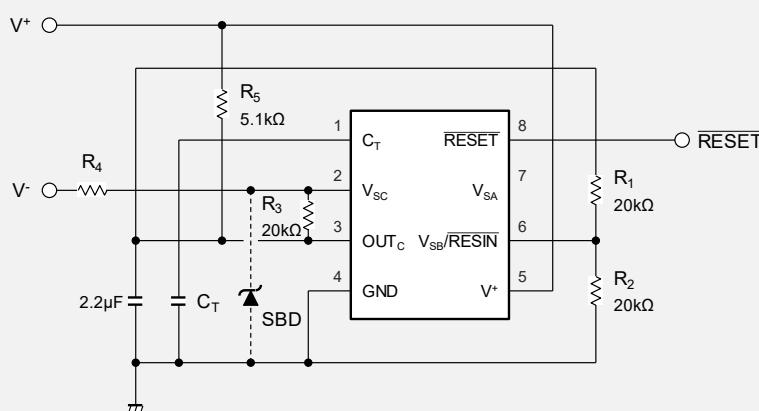

Fig. 10 Positive and negative dual power supply monitoring (V⁺= 5V, V⁻=negative voltage)
- V⁻ detection voltage is calculated as following formula. In case of resistor value in Fig.10, the detection voltage (falling) is about -4.3V and the detection voltage (rising) is about -4.4V.